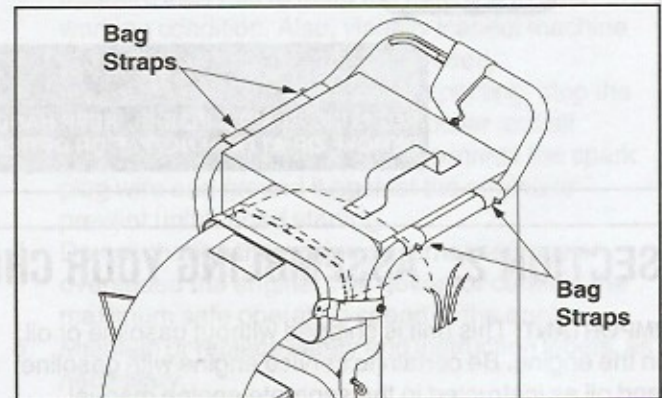

Figure 4
- Place the four straps on the top of the bag over upper handle, hooking them on the studs to secure in place. Squeeze the clamp on the drawstring and pull the drawstring tight. Release the clamp. See Figure 4.